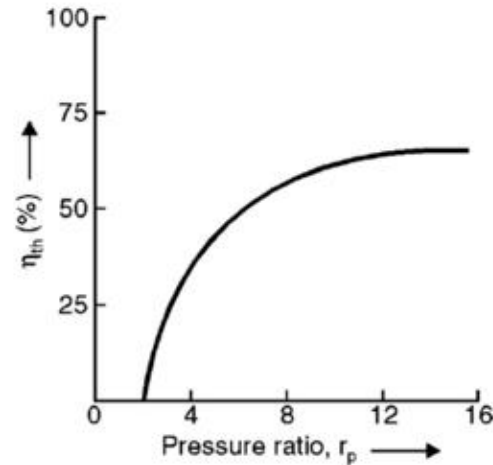

Fig. 7.12 Effect of pressure ratio on the efficiency of Brayton cycle
- Thermal efficiency of Brayton cycle is function of pressure ratio. Efficiency increases with pressure ratio as shown in Fig. 7.12.